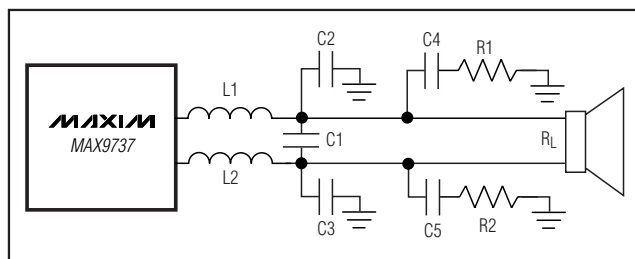

Figure 4. LC Filter Configuration
Some applications use the MAX9737 with a full inductor/capacitor-based (LC) output filter. See Figure 4 for the correct connections of these components.